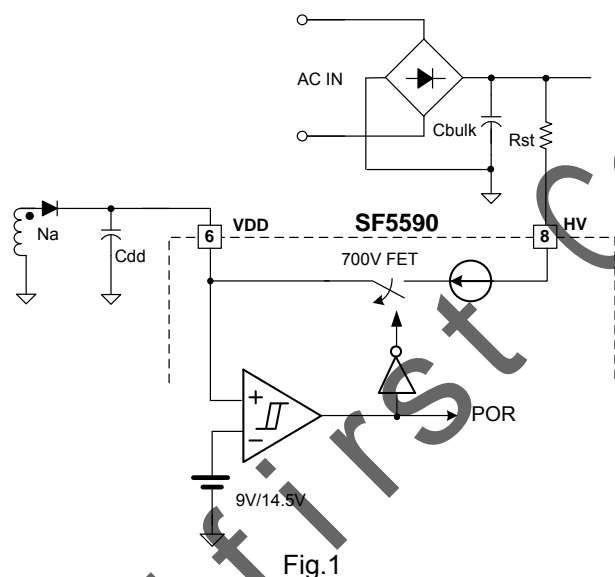

Fig.1
SF5590 Integrates proprietary HV-mW™ technology to achieve less than 50mW standby power. The core of HV-mW™ technology is related a built-in 700V startup circuit and standby control. Fig.1 shows the high voltage (HV) startup circuit for SF5590 applications. The HV pin is connected to the line input or bulk capacitor through a resistor. During startup, the internal startup circuit is enabled and a HV current source charges the VDD hold up capacitor Cdd through Rst. When VDD reaches UVLO turn-on voltage of 15.5V(typical), SF5590 begins switching and the IC current consumed increased to 2mA (typical). The hold-up capacitor Cdd continues to supply VDD before the energy can be delivered from auxiliary winding Na. During this process, VDD must not drop below UVLO turn-off voltage (typical 10V).